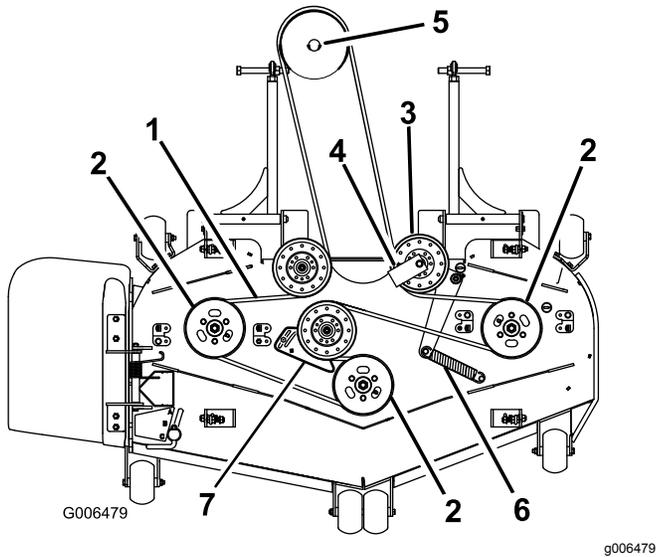

Figure 84
7. Remove the belt guide on the spring-loaded idler pulley shown in Figure 84.
- Install the new belt around the mower pulleys and the gearbox pulley under the engine (Figure 84).
- Install the belt guide on the spring-loaded idler at a 45° angle as shown in Figure 84. Torque the bolt to 37 to 45 N·m (27 to 33 ft-lb).
- Install the idler spring to the 2 posts (Figure 84).